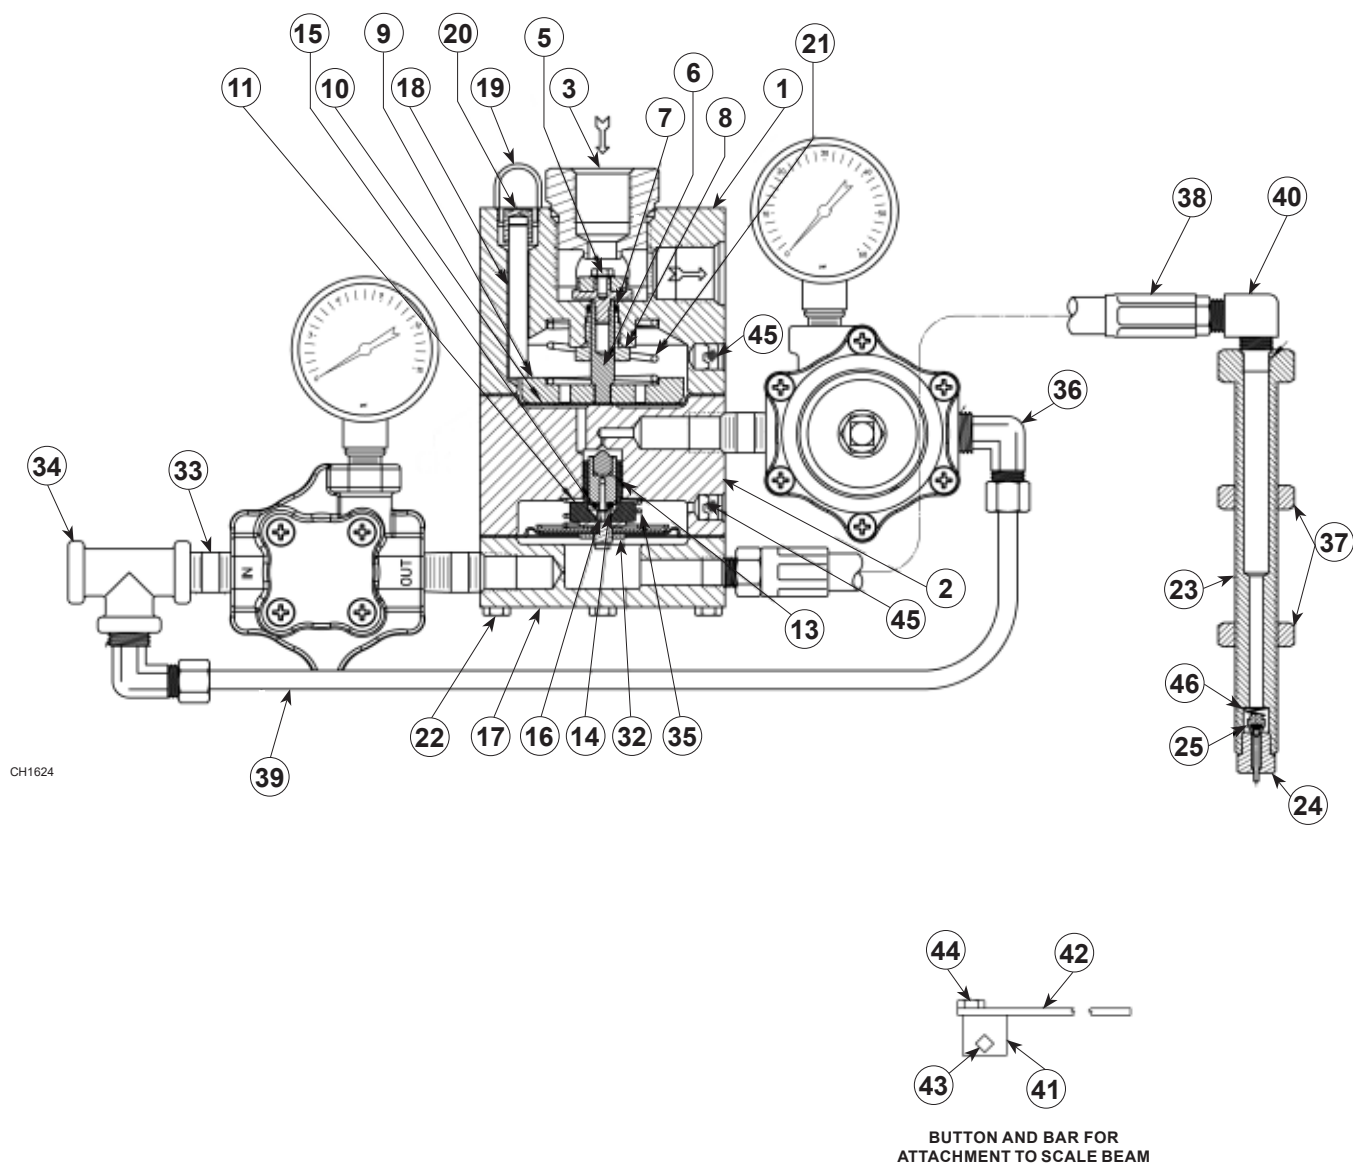

Figure 4. Type N201 Assemblies
1. If sticking of the main (upper) valve should occur, place a few drops of oil below the disk holder (key 5, Figure 4). This can be done with an eye dropper or oil can through one of the outlet ports. Refer to the disassembly instructions if this does not correct the situation.
To check disk holder assembly, O-ring, and diaphragms proceed as follows (numbers in parenthesis refer to key numbers in Figure 4):